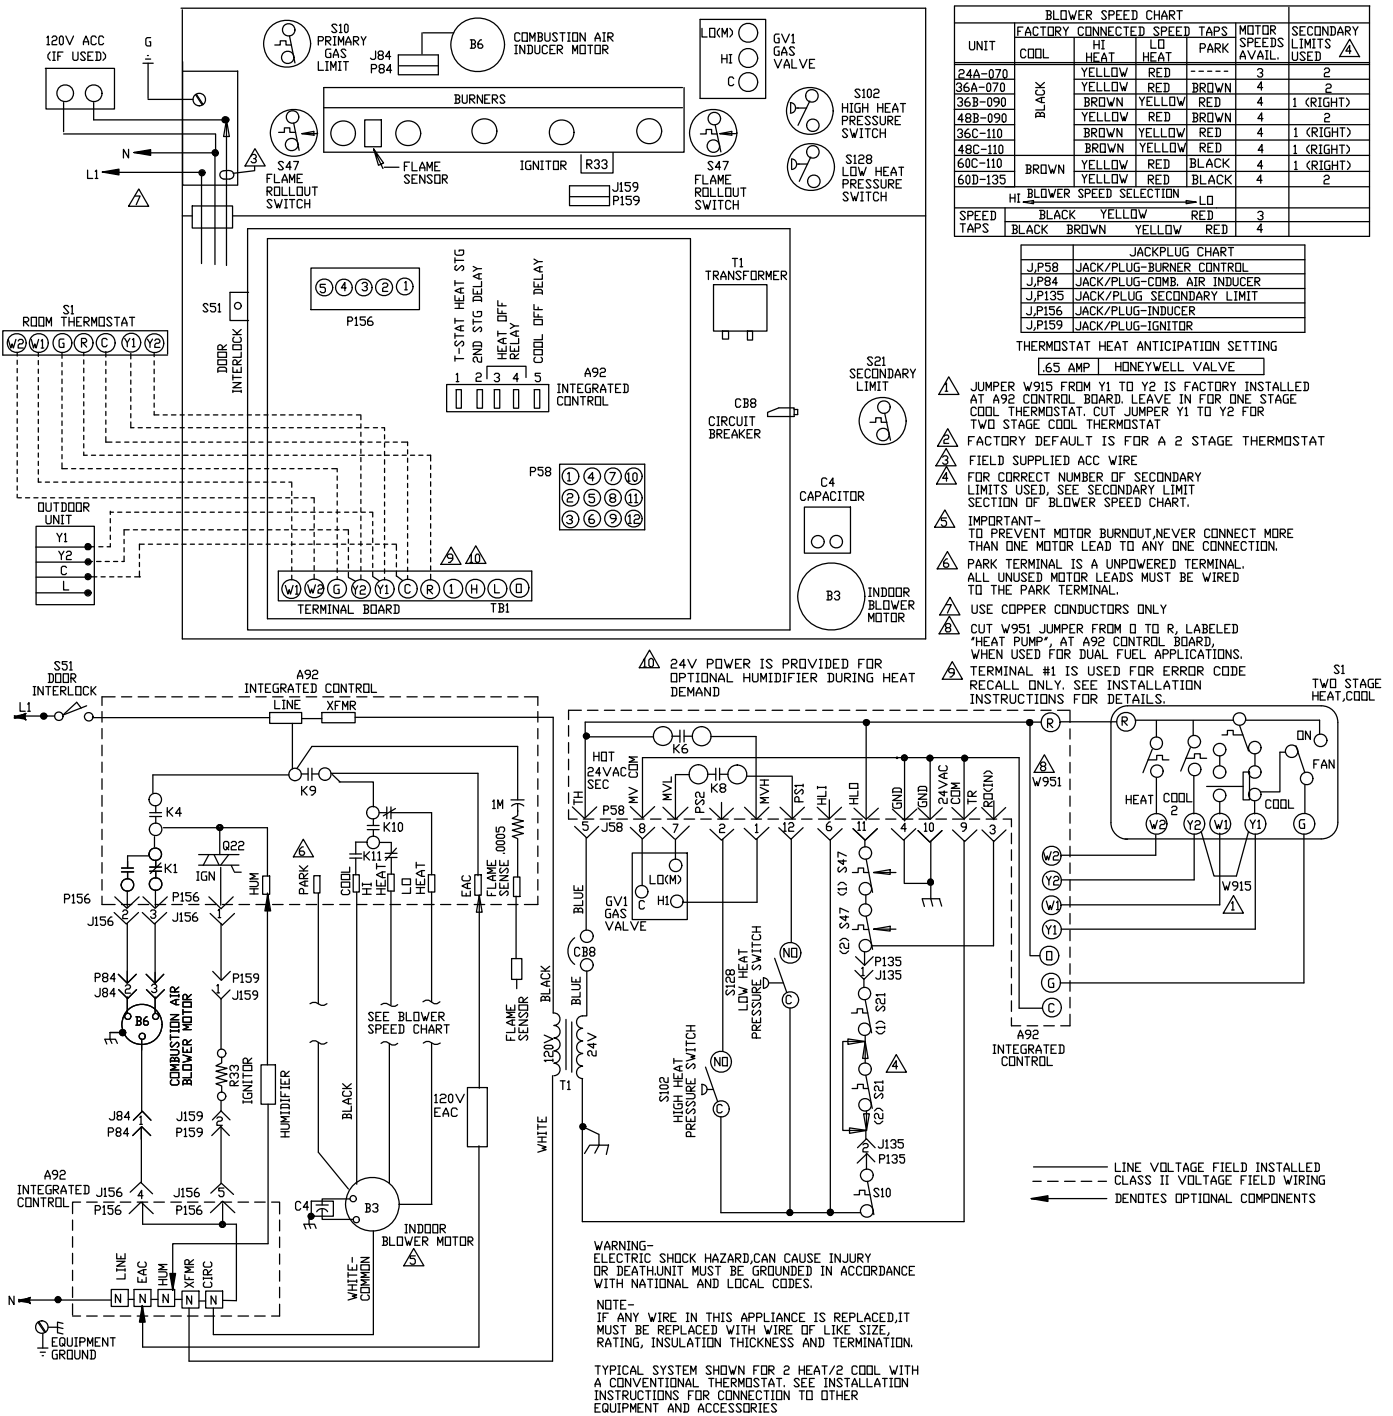
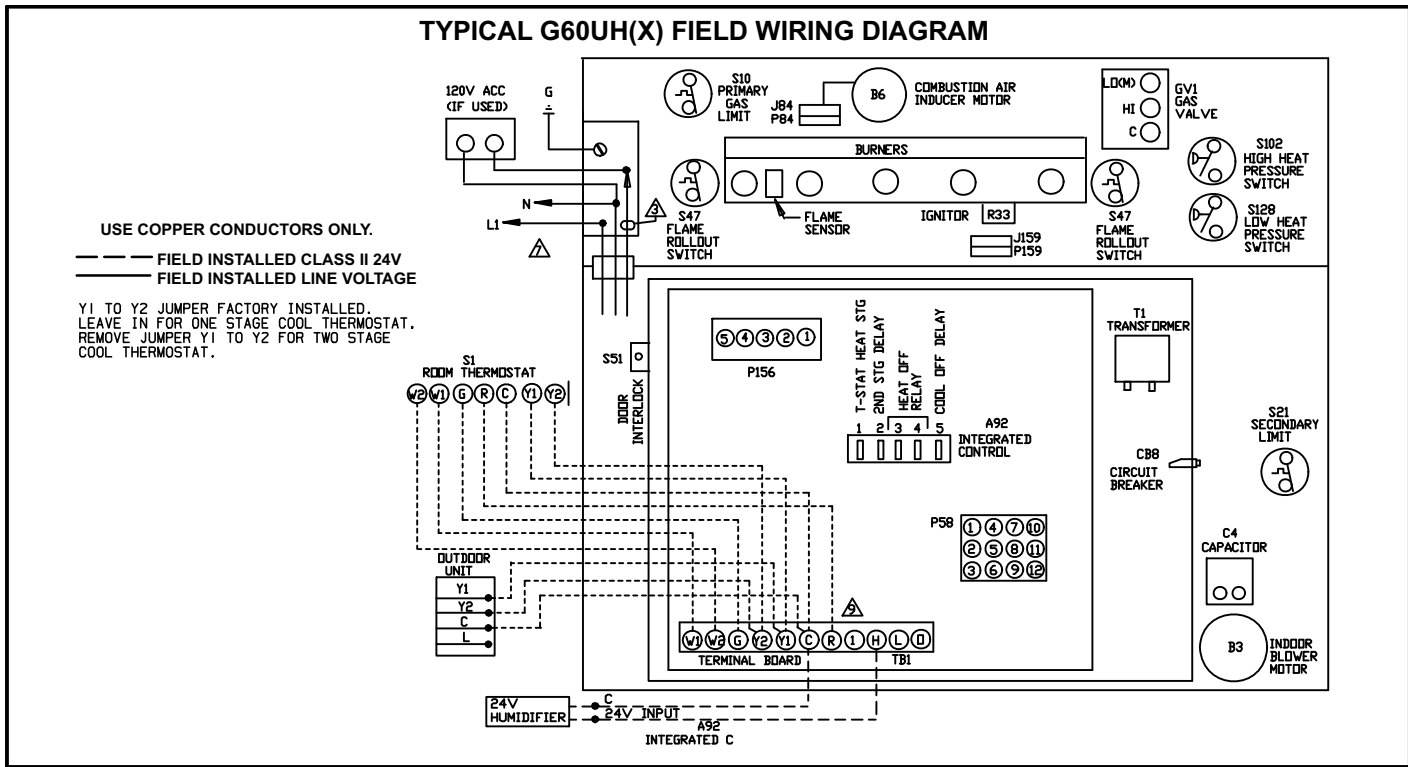

FIGURE 23
FIGURE 24
Refer to figure 23 for schematic wiring diagram and troubleshooting and table 10 and figure 24 for field wiring.
- 5 - Complete the wiring connections to the equipment. Use the provided unit wiring diagram and the field wiring diagrams shown in table 10 and figure 24. Use 18-gauge wire or larger that is suitable for Class II rating for thermostat connections.